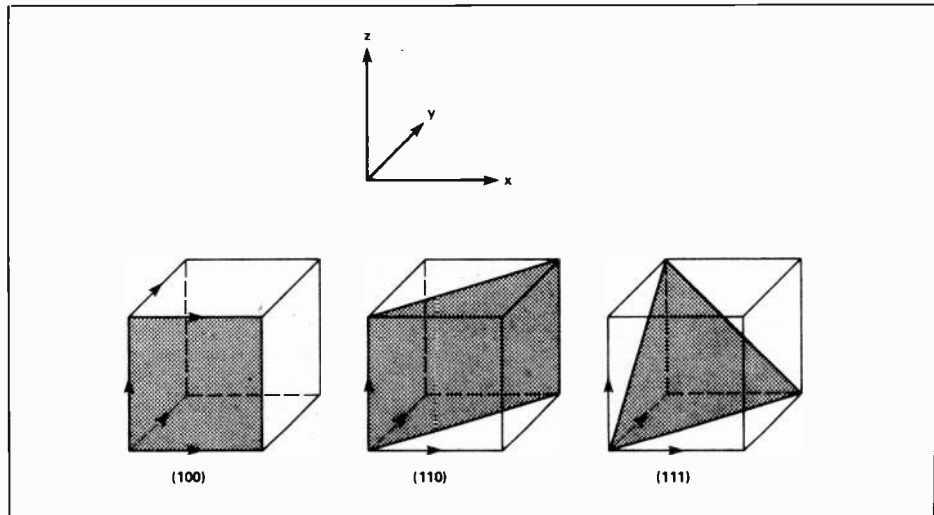

Fig. 1 The three basic index planes of silicon.
crystallography of silicon numerically using Miller indices, which essentially state the orientation of a plane of a silicon atomic lattice by defining its intercepts with the hypothetical set of axes (Fig. 1). From the micromaching point of view the most important planes are the (100), (110) and (111) in the (cubic) silicon lattice. Etchants like potassium hydroxide or an ethylene diamine/pyrocatechol mixture essentially migrate much faster in the (100) direction than they do in the (111) direction because the packing density of silicon atoms is much lower in the 100 direction. The result when etching is that a V-shaped notch is formed in a (100) slice where the sides of the 'V' are the slower-etching (111) planes.